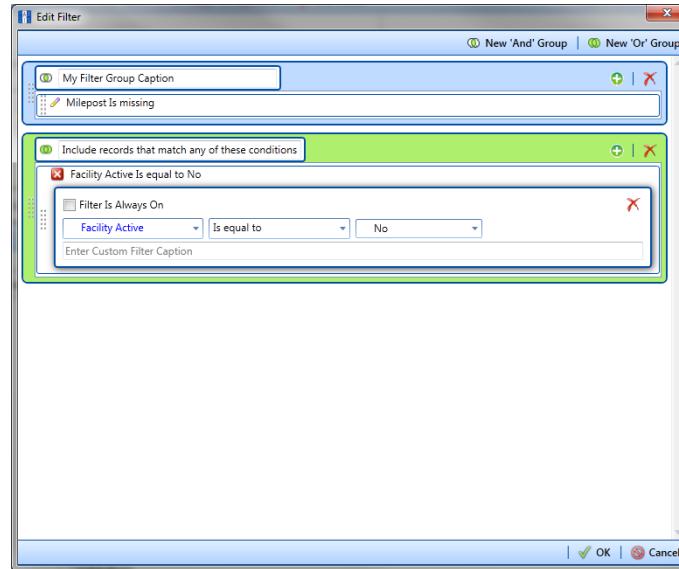

Figure 9-23. New 'Or' Filter Group
- a Click  **New 'Or' Group** to open a filter properties group box (Figure 9-23, page 409).